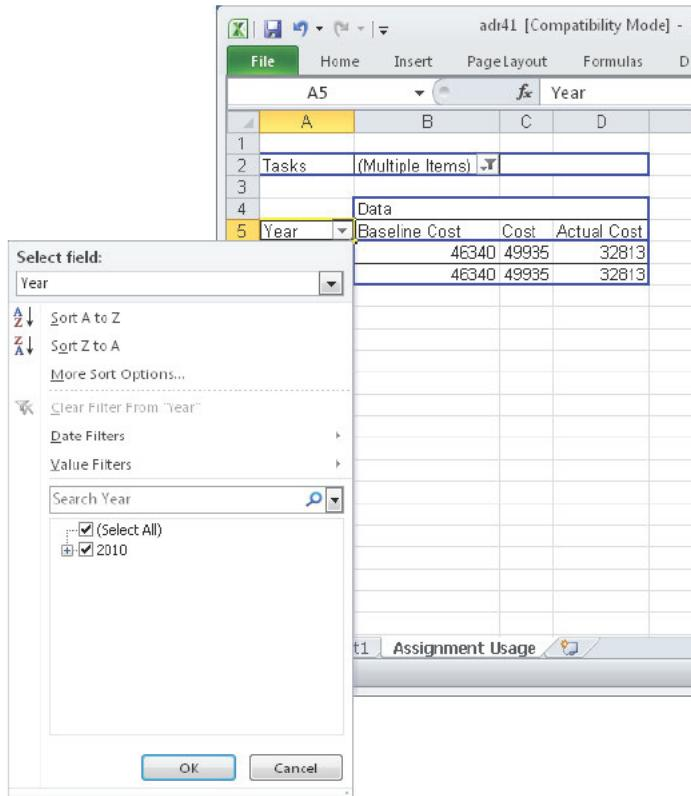

FIGURE 9-14 Choose a filter on the shortcut menu or select check boxes to include items in the chart.
5. To filter by other fields in the pivot table, click the down arrow to the right of the field name, and then choose a filter to apply, as shown in Figure 9-14.